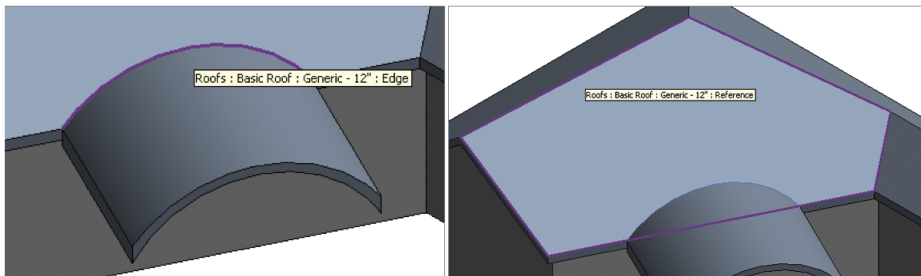

FIGURE 3.21 Attaching the roof
7. Hover over the rear edge of the extruded roof, as shown in the left image of Figure 3.21.